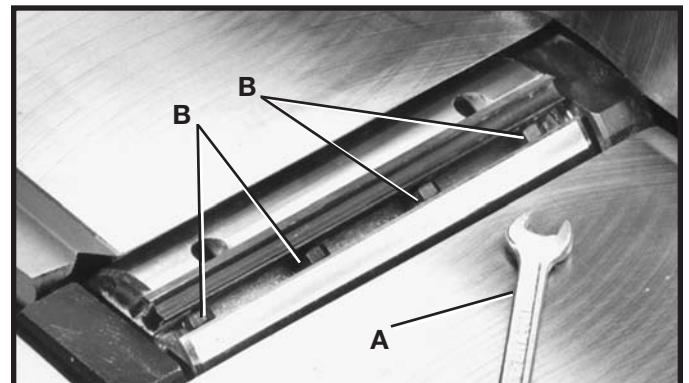
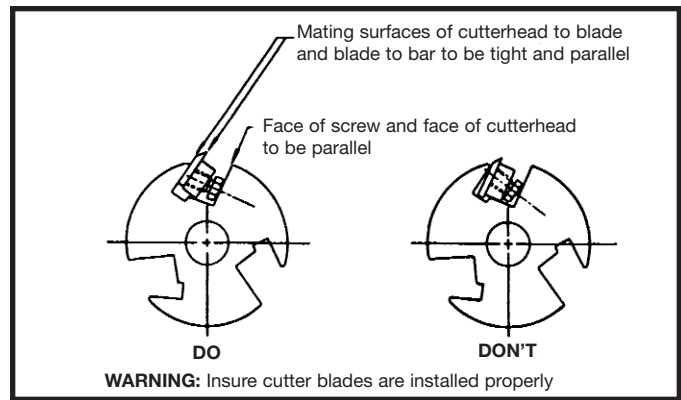

Fig. 57
Fig. 59
3. Using 8x10 mm open end wrench (A) Fig. 57, slightly loosen the four locking screws (B) in each knife slot by turning the screws (B) clockwise. This relieves stress in the cutterhead.
4. Loosen screws (B) Fig. 57, further and remove knife and knife locking bar.
**⚠ WARNING** **CARE MUST BE TAKEN WHEN INSERTING THE KNIVES AS THE CUTTING EDGES ARE VERY SHARP.** Push the knife down using a scrap piece of wood as far as possible and turn each screw (B) Fig. 57, counterclockwise just enough to hold the knife in position. Replace the remaining two knives in the same manner. **NOTE: KNIVES MUST BE INSTALLED CORRECTLY AS SHOWN IN FIG. 59.**